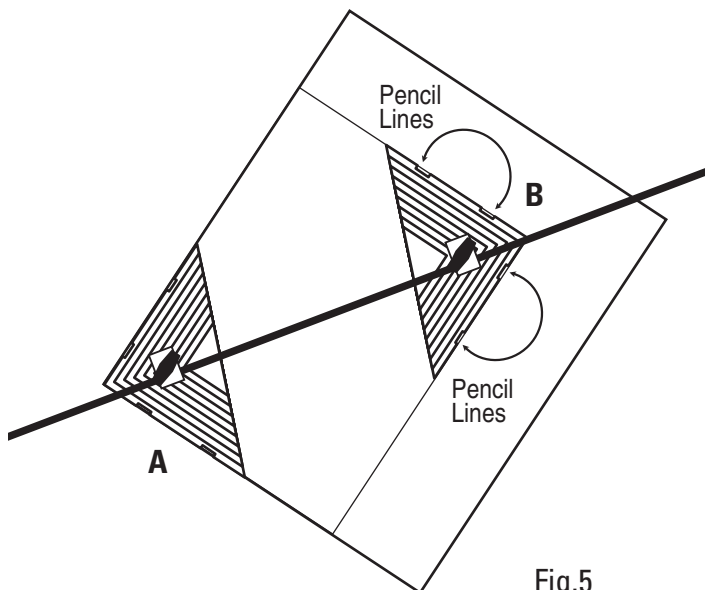

Fig.5
**Step 3** – Remove the sizing tool from the frame making sure the position of each Triangle does not change. Place Fit-N-Frame Border Guide on the back of the mat board by aligning Triangle A with the bottom left hand corner of the board. (Fig. 5)
**Step 4** – Next draw a line within the two short recesses of Triangle B. These lines are the outside dimensions of the mat. (Fig. 5)